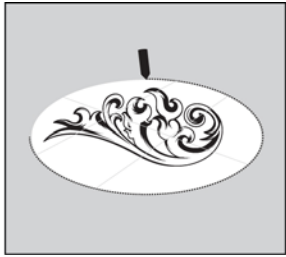
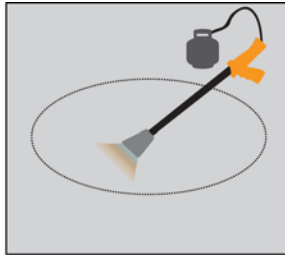

Figure 2: Mark area
Figure 3: Remove moisture
2. Mark the area to receive the DecoMark® using a chalk line, chalk or crayon. *See Figure 2*. When tracing always handle the material with care. The DecoMark® material consists of a pattern of interconnected individual pieces of preformed thermoplastic material. Do not lift an entire pattern segment (usually 2 ft. x 3 ft.) by holding on to a small individual piece of the pattern only. The material should be handled on the plastic sheet it is packed with until it is close to its final position. *See Figure 3*. Once the marking has been traced, or the area chalked, remove the marking from the pavement.